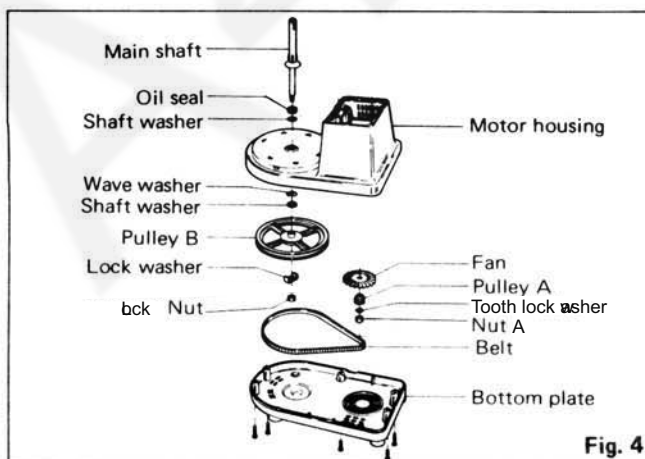

Fig. 4
2. Belt, Pulley A, Pulley B and Main Shaft (Fig 4 & 5).